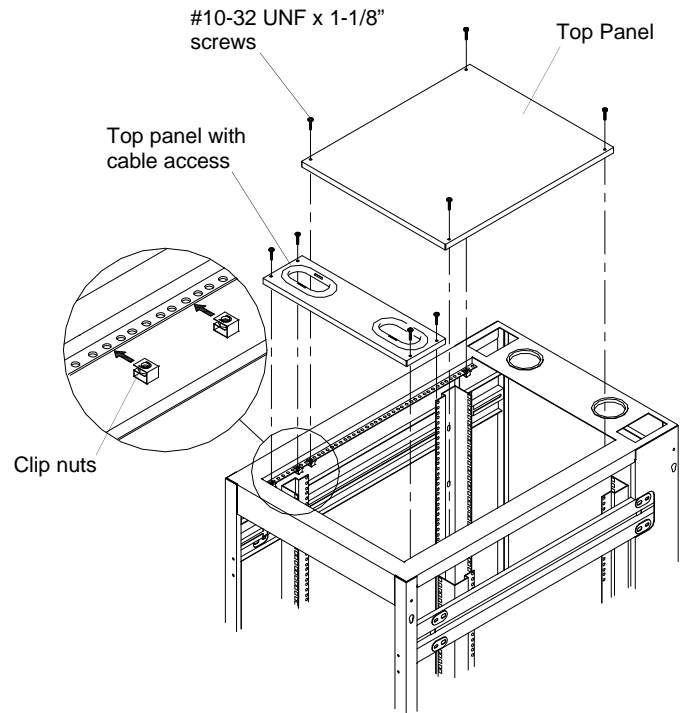

Figure 6
1. To remove a **Top Panel**, loosen and remove the #10-32 UNF x 1-1/8" screws that secure the Top Panels to the enclosure frame. See figure 6.